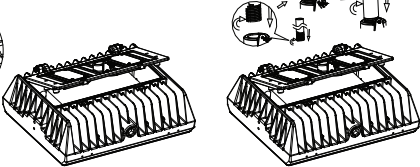

Figure 18
- 2.Pass the wire in the threaded pipe through the hole and connect to the wire of the terminal accordingly (Figure 18).